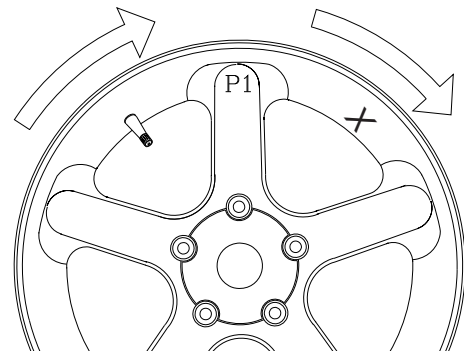

Figure 34
6. The display will read "**SPO 1**". Locate the first spoke nearest to top dead center and rotate the wheel so that spoke is at top dead center. See Figure 34. Press **F** to store first position.